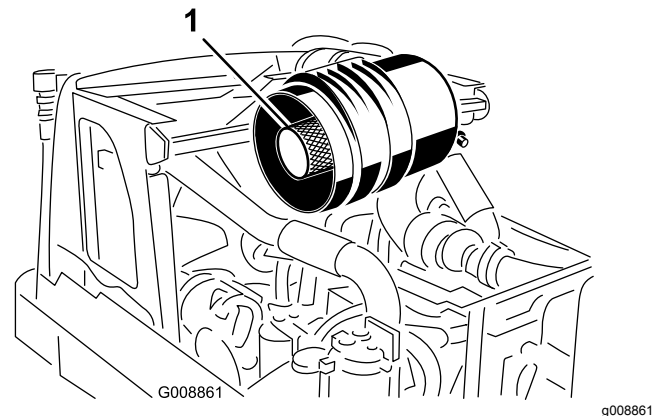

Figure 45
**Important:** Do not attempt to clean the safety filter. Replace the safety filter after every 3 primary-filter services (Figure 45).